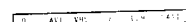

Fig. 15.
- 4 Using Δ or ∇ , select the programme position you want to move to another programme position and press OK. The colour of the selected position changes. (See Fig. 15.)